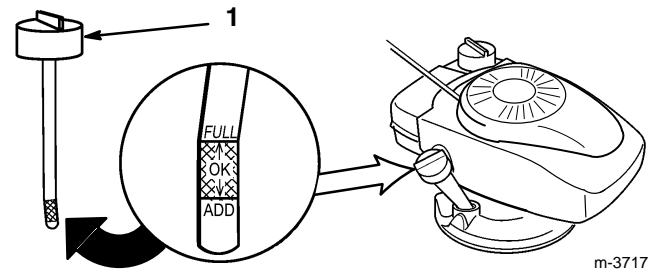

Figure 4
1. Check the oil level before each use (Fig. 4).
3. Remove the dipstick and check the oil level (Fig. 4).